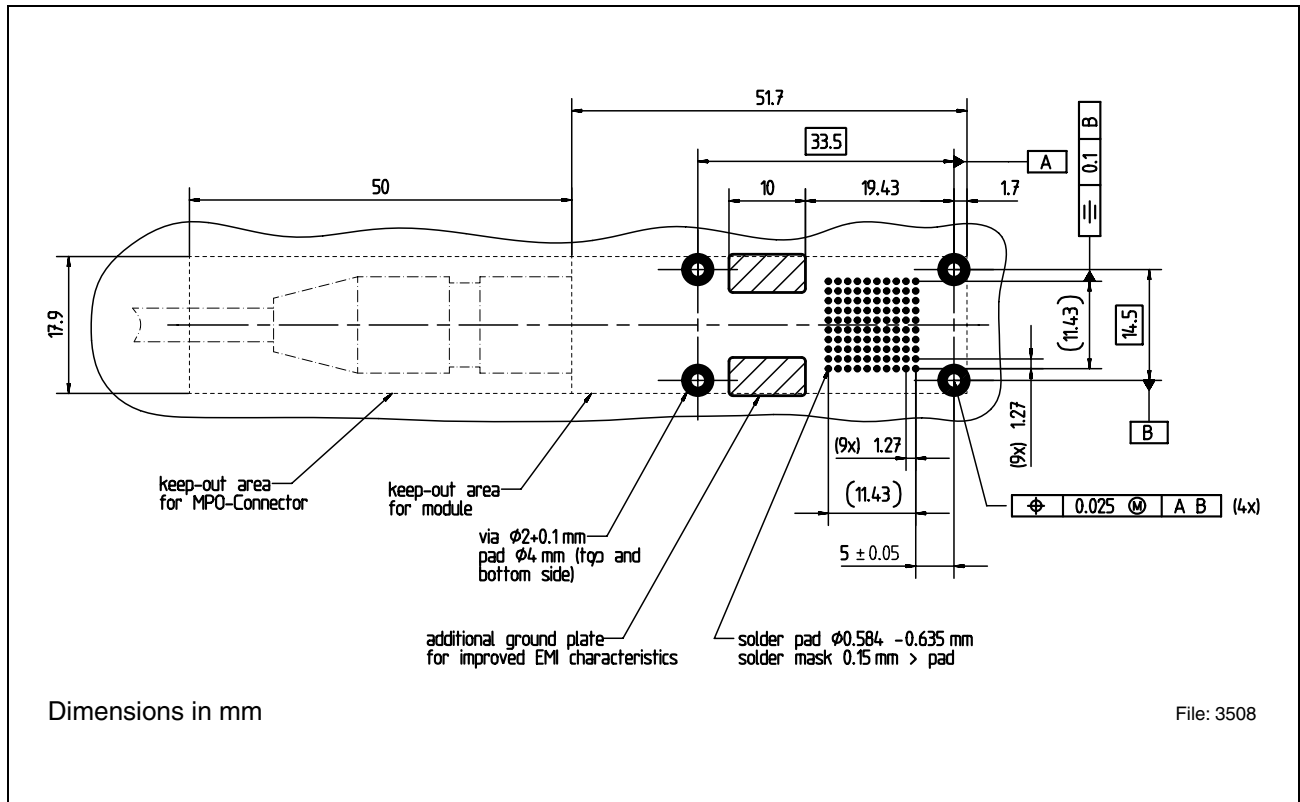

Figure 14 PCB Layout
1. **Figure 14** describes the recommended customer board layout for the PAROLI 2 modules.
8. The dashed lines in **Figure 14** indicate the typical keep out area for straight MPO connectors as well as for the module MPO receptacle in case of central board placement of the module.